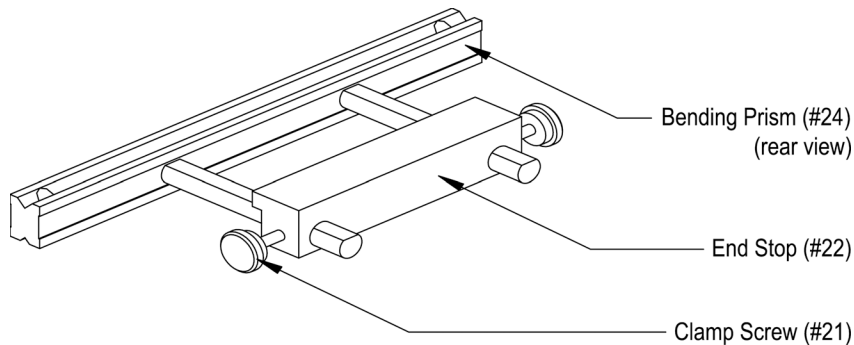

Figure 3 – Loosening the Clamp Screw
Step 1: Loosen the clamp screw located on the backside of the Shear/Brake as shown in figure 3.